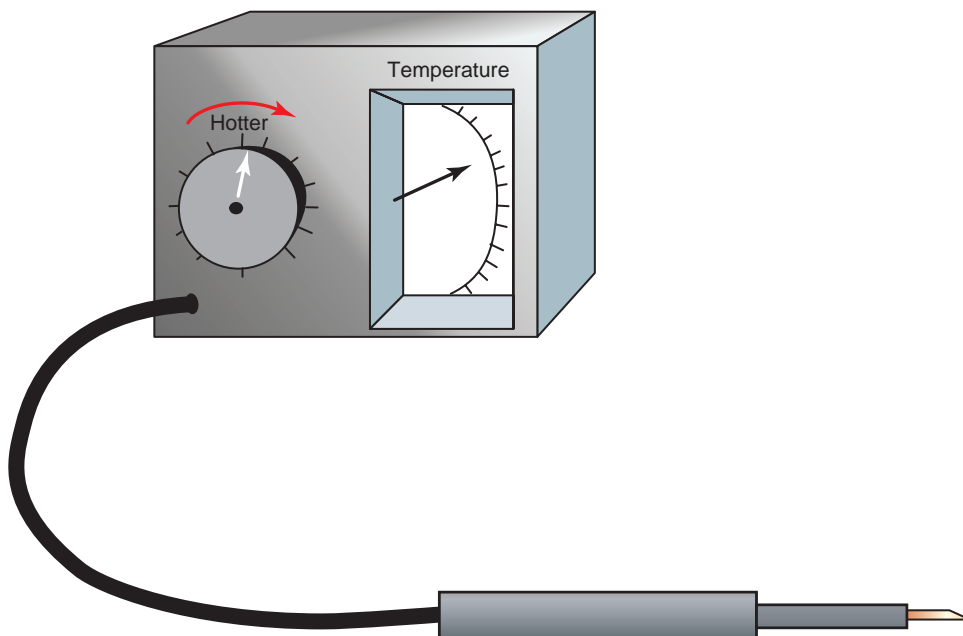

FIGURE 5-8 Control console for resistance soldering.
- Less chance of damaging parts—A heat source can be used that has a maximum temperature below the temperature that may cause damage to the parts. With the controlled temperature sufficiently low, even damage from unskilled or semiskilled workers can be eliminated, Figure 5-8.